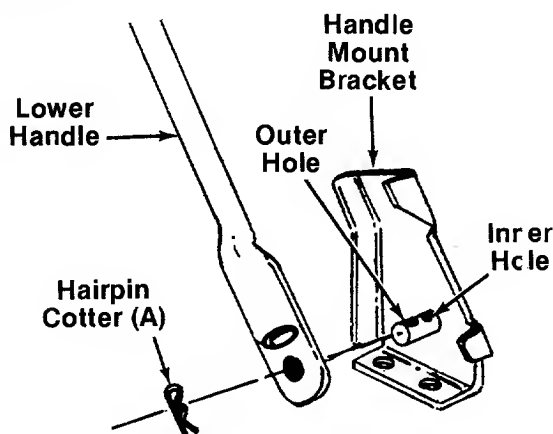

FIGURE 2.
3. Place lower handle in position over weld pins in handle mount brackets on deck. Make certain the instruction label on the lower handle can be read from the operating position. Secure by placing two hairpin cotter in inner hole on weld pins. See figure 2.